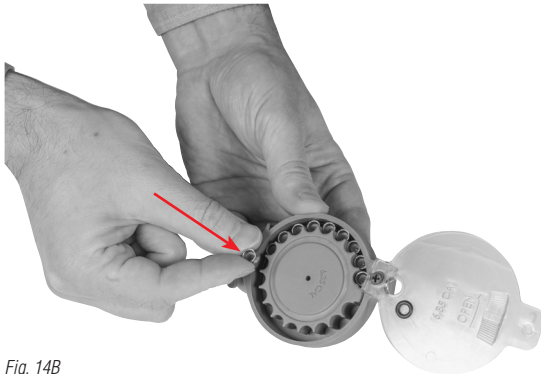

Fig. 14B
4. Load the remaining pellets into the other open locations in the magazine **(Fig. 14B)** and return the magazine cover to the fully-closed position. Be sure that the protrusion on the cover seats fully into the slot of the magazine body.